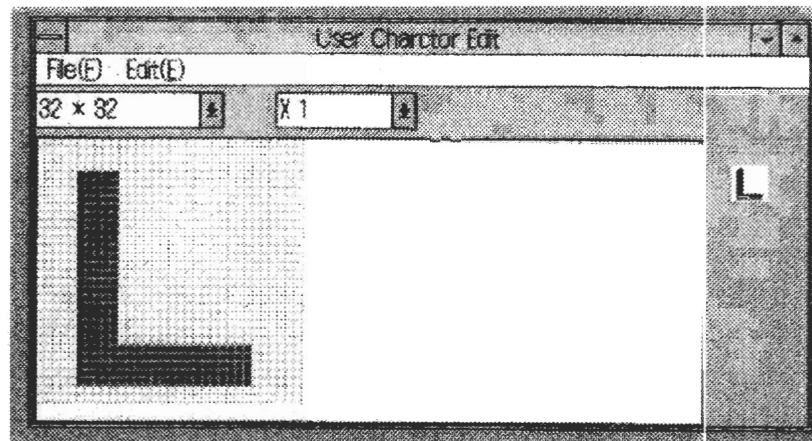

Figure 4-24
- "Edit Character(U)": Opens the "User Character Edit" window (Figure 4-24). A desired character can be created.